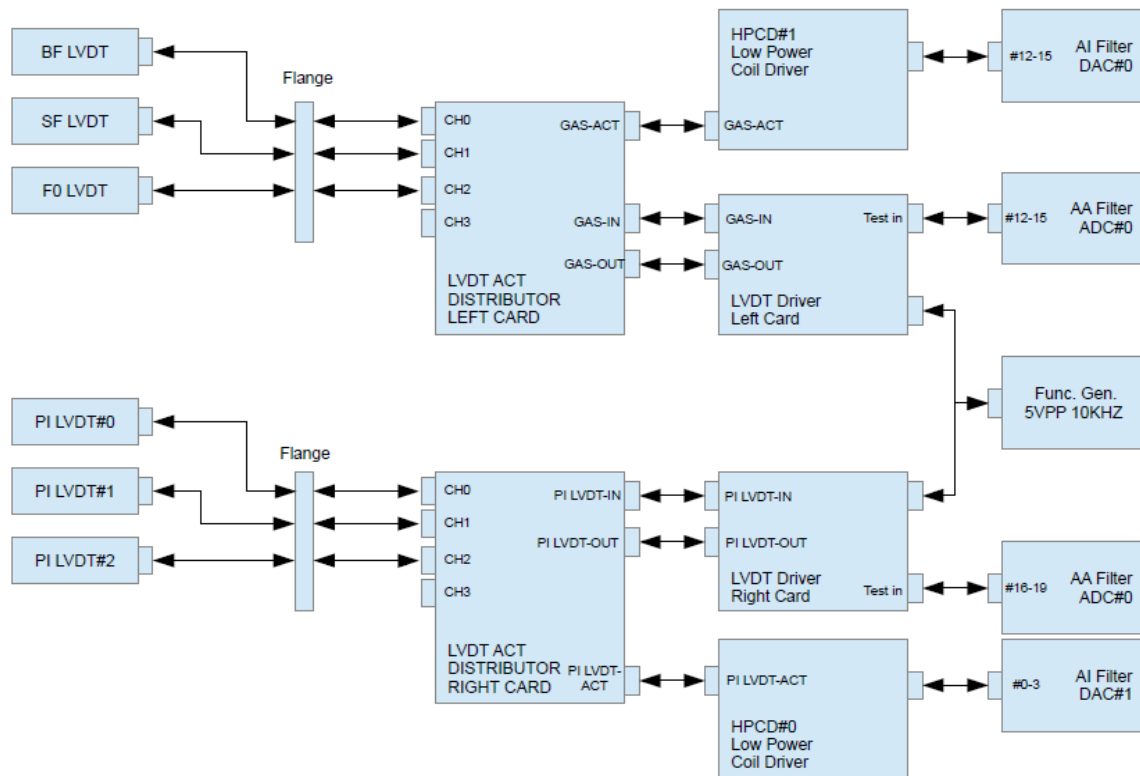

Figure 3: BS LVDT Connections
1. To calibrate and operate the LVDTs, we need to connect them to the LVDT Driver board, and set a signal in the Signal Generator for the excitation of the primary coil. In the figure 3. We can see the connections used for the BS.